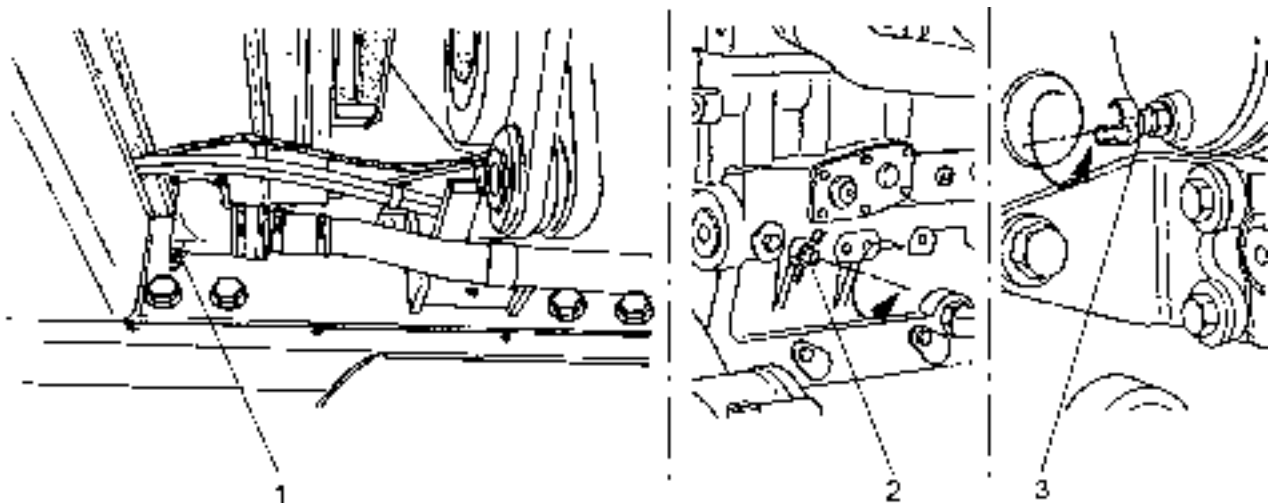

Fig. 5.7. Water Coolant Drain Valves.
5.8.6.1. Draining the System (Fig. 5.7)